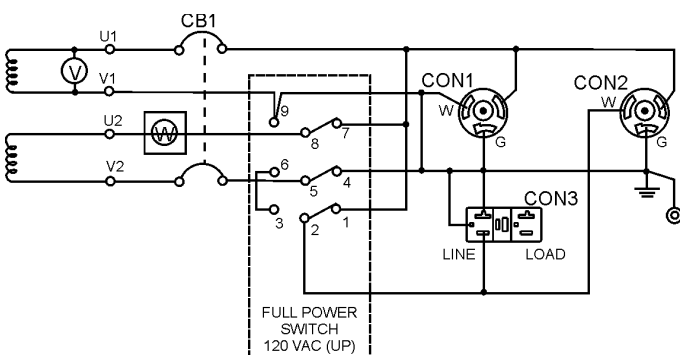

Figure 3C. 120V Full Power Switch Simplified Diagram (Up Position)
11. **Full Power Switch** – The generators are provided with a full power switch. Figures 3C and 3D show simplified wiring diagrams of the dual voltage system.